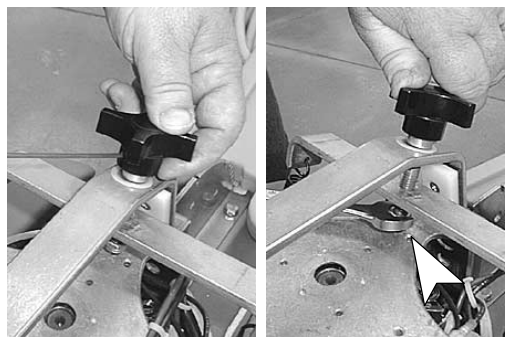

Fig. 6
6. Replace knob and unthread nut from bottom of adjustment stud, 9/16" wrench required. Keep nut for reuse (Figure 6).